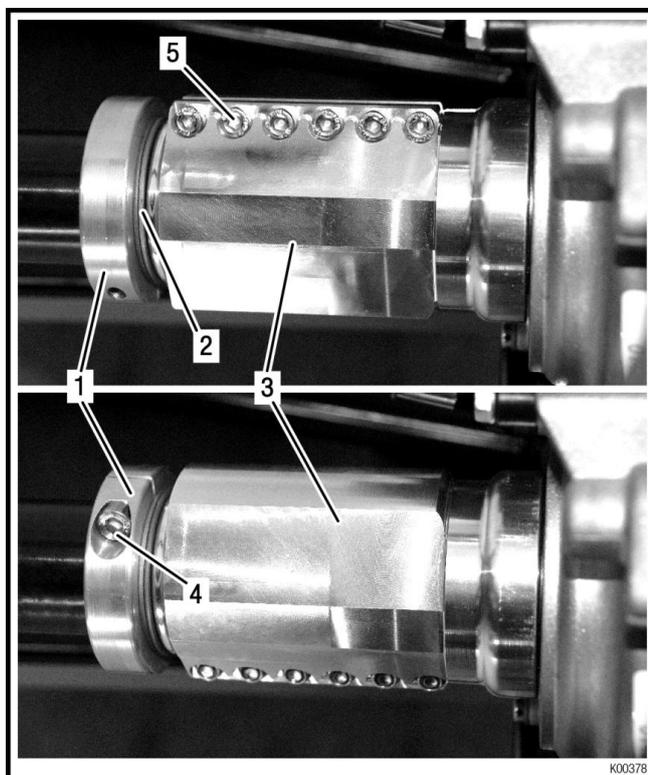

Fig. 36
- ➔ Slide the clamp ring (pos. 1), Fig. 36, the thrust washer (pos. 2), Fig. 36 and the overload clutch (3) to the middle of the rear axle.
The engine has to be fixed to the chassis by means of 2 engine brackets (pos. 1) (*Fig. 36*). Due to different distances of the 2 main rails of various chassis brands, the engine bracket is not included in the scope of supply.
➔ After engine alignment, tighten the 4 Allen screws M8 x 25 to fix the upper engine bracket to the engine with 28 Nm (248 lbf.in.). Fix and tighten the lower engine bracket to the upper bracket with 4 Allen screws M8 x 30 with 22 Nm (195 lbf.in.). See *Fig. 36*.
➔ Slide the overload clutch, thrust washer and clamp ring along the axle to the hollow shaft and then fix to the rear axle. See *Fig. 36*.
➔ Tighten the 6 Allen screws (pos. 1, *Fig. 37*) or (pos. 5, *Fig. 36*) on the overload clutch with 7 - 8 Nm (62 - 71 lbf.in.).